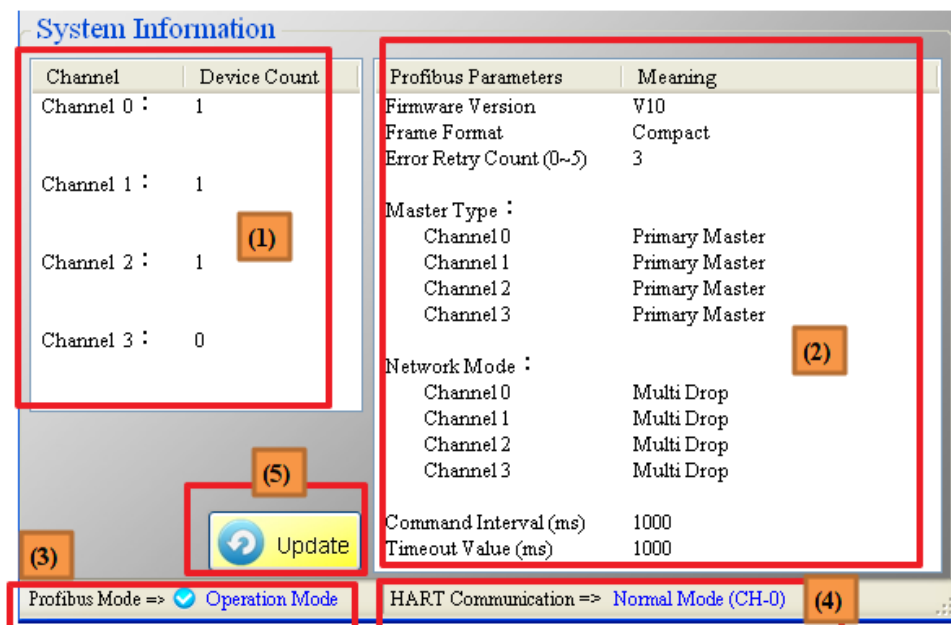

Figure 55 System information
System information has 5 parts, they are (1) Device count of each HART channel 、 (2) common parameters of PROFIBUS 、 (3) PROFIBUS communication state 、 (4) HART communication state 、 and (5) update button, as shown in *Figure 55*